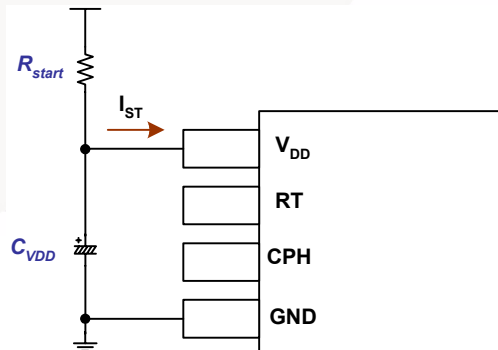

Figure 30. Equivalent Circuit During Start
Figure 30 shows the equivalent circuit for estimating t_{start} . From the circuit analysis, V_{DD} variation versus time is given by:
- Refer to the Design Guide start-up circuit, in Figure 30. Due to reducing power loss on the start-up resistor (R1) for high-efficiency systems, it is possible to use a higher resistor value than recommended. In this case, the IC doesn't reliably keep SD (shutdown) state for protection. Carefully select the start-up resistor (R1) or use the recommended value (470k) to sufficiently supply shutdown current (I_{SD}) and start-up current (I_{ST}).